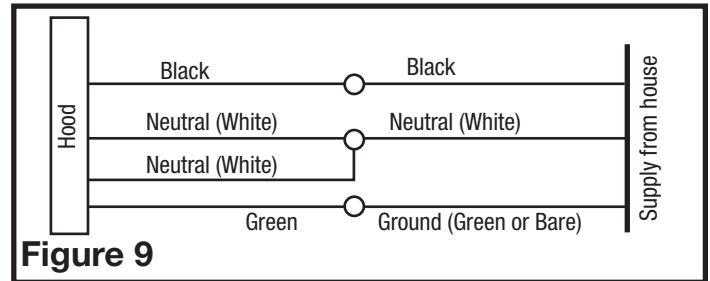

Figure 9
1. Connect the two loose White wires from the range hood to the White wire from the supply, and the loose Black wire from the range hood to the Black wire of the supply. Connect the ground wire (green or bare) from the supply to the green ground screw of the hood. Use approved methods for all connections (**Figure 9**).